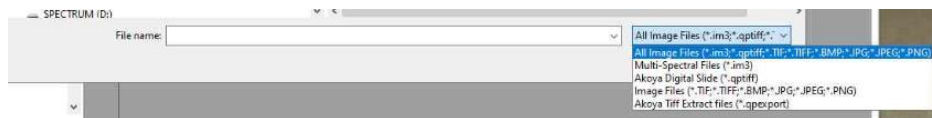

FIGURE 6.2. Available image types.
3. Leave the image file type set to its default value of all image files, or optionally, select a different file type. (See Figure 6.2.)